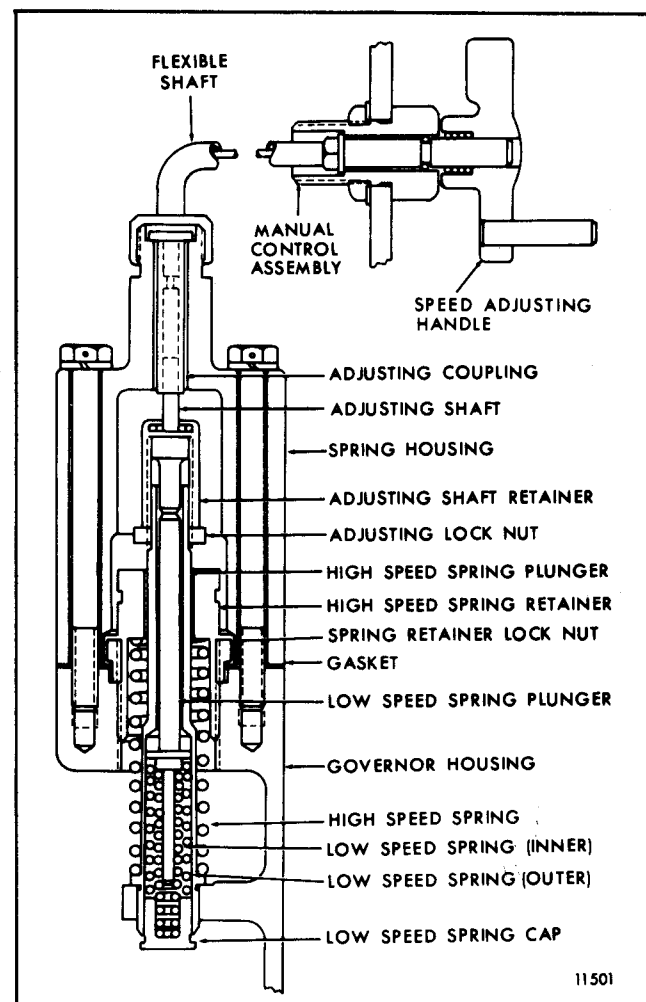
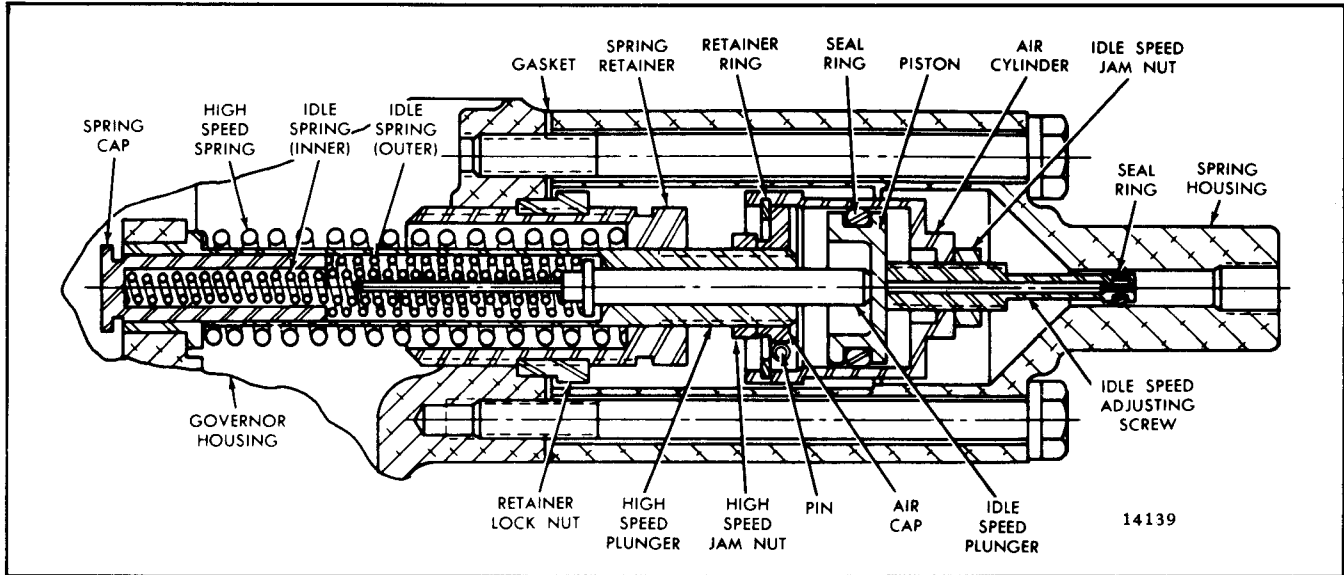

Fig. 1 - Cable Operated Governor Spring Housing and Components
Fig. 2 - Air Operated Governor Spring Housing and Components
During highway operation, the governor functions as a limiting speed governor, controlling the engine idling speed and limiting the maximum operating speed. At the unloading area, the throttle is left in the idle speed position and the speed adjusting handle, on the cable operated governor (Fig. 1), is turned to the speed required within the above range to operate the auxiliary equipment. For the air operated governor (Fig. 2), the engine speed is changed to the speed required by increasing or decreasing the air supply pressure to the governor. The governor then functions as a variable speed governor, maintaining a constant speed when the load is constantly changing, during the unloading operation. Before resuming highway operations, the speed adjusting handle on the cable operated governor must be turned back to the stop, then turned ahead about one-quarter of a turn. The air operated governor's air supply pressure must be vented before resuming highway operations.
3. For *Cable Operated Governors* make a preliminary idle speed (normal highway idle speed) adjustment as follows (Fig. 1):
4. For *Air Operated Governors* make a preliminary idle speed (normal highway idle speed) adjustment as follows (Fig. 2).